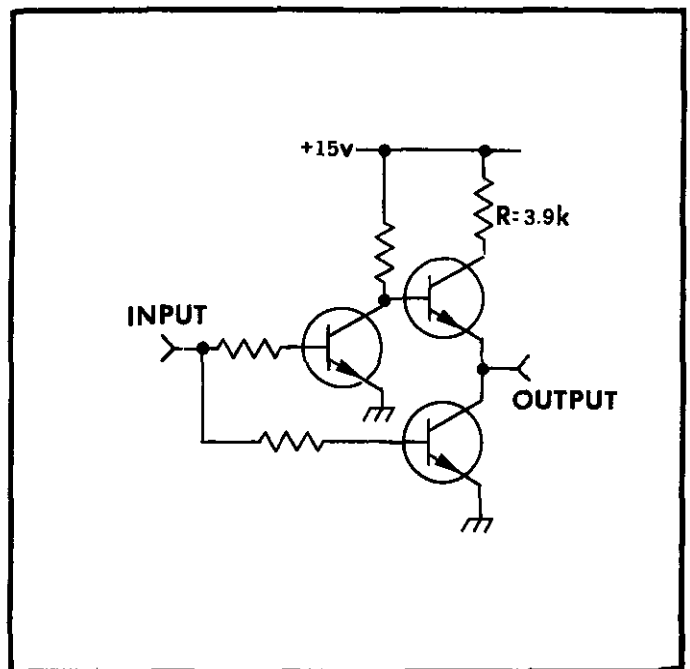

FIGURE 17. Model 4401 Buffer Stage.
g. Output Buffer Board, PC-218. This board contains 15 buffer circuits to provide BCD Data and Overload and Polarity Print signals. Buffer circuits "A" through "P" consist of transistor buffer stages as shown in Figure 17.